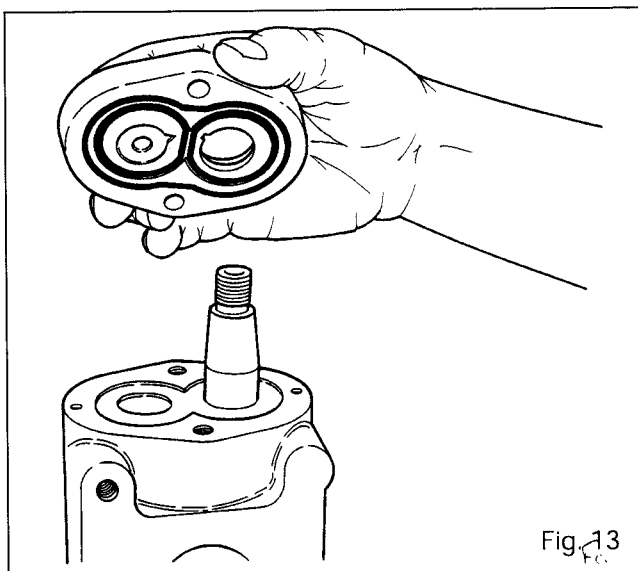

Fig. 13
32. Fit the cover (Fig. 13). Fit the bolts **(1)** and tighten them to a torque of 30 to 40 Nm.